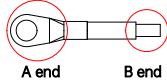

Fig. 6 Grounding terminal connection
- (5) Grounding: MV810-EIP01 must be grounded during wiring. Users need to prepare and crimp the cable by themselves, as shown in Fig. 6.